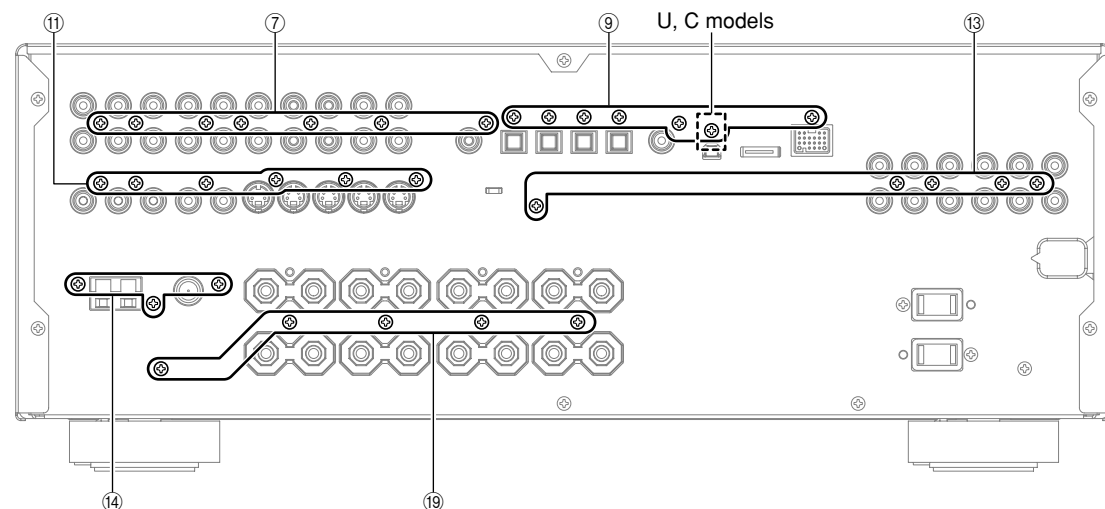

Fig. 4
- b. Remove 5 screws (13). (Fig. 4)
- a. Remove 3 screws (14). (Fig. 4)
- c. Remove 5 screws (19). (Fig. 4)